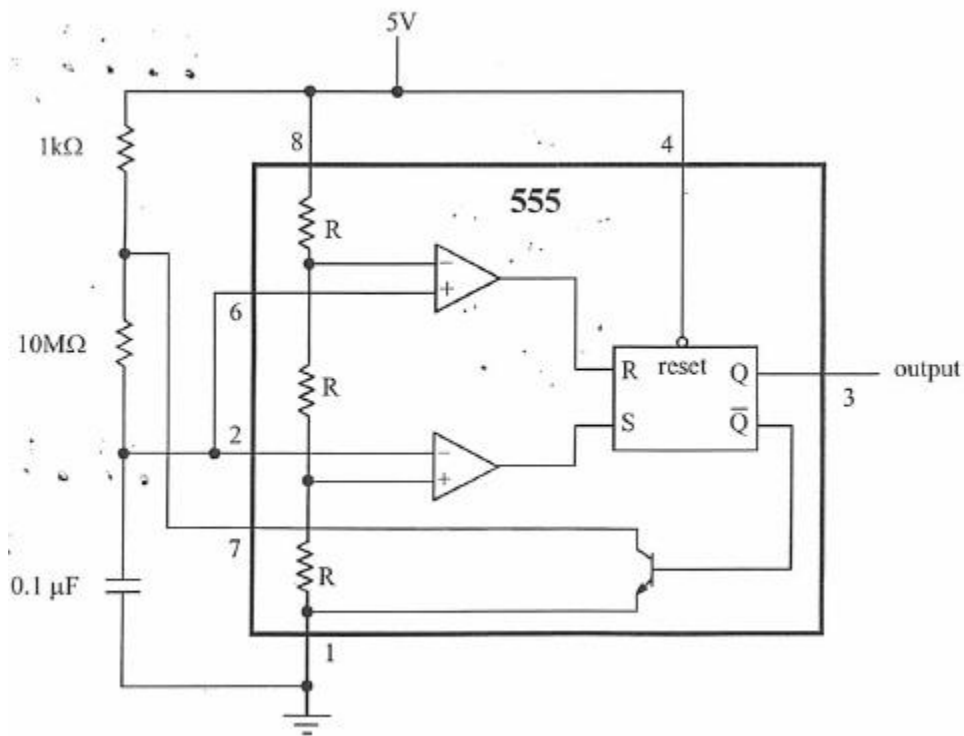

Figure 8 555 Timer circuit
3. In the steps that follow, you will construct a one decade digital display as shown in Figure 8. **Note - don't build the circuit now (see steps 4-13 below).** Each group will be given a 7-segment LED display, a 7447, a 7490, and a 555. Carefully color code your wires, trim them to correct lengths, and insert them flat against the board. A "rat's nest" will not be acceptable. Please see the physical example in the lab (or see the photo at the start of the procedure section). Figure 2 includes useful reference information from the datasheet.
12. Finish wiring the 7447 and 7490 as shown in Figure 8. Refer to the 7490 Reset/Count Truth Table and the description of the reset inputs above. In the schematic, all of the reset pins are grounded, putting the 7490 in count mode.
13. To be able to reset the counter (e.g., with a pushbutton input), set R0(2)=H, R9(1)=L, and R9(2)=L, and wire up a normally-open (NO) button to R0(1) so the signal is low when the button is not pressed. When R0(1)=L, the counter will be in count mode, and when R0(1)=H (when the button is pressed), the counter will reset to 0.